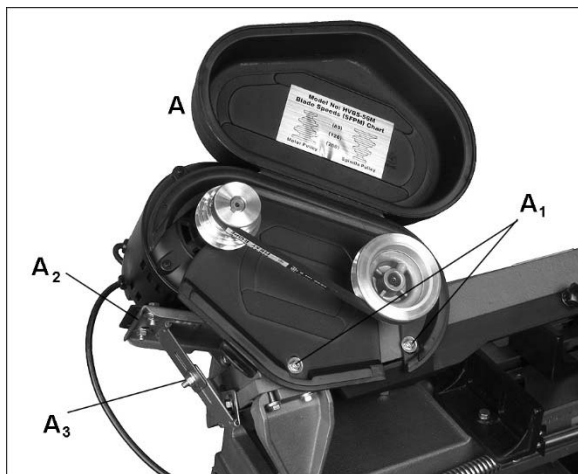

Figure 6
4. Slide pulley cover (A, Figure 6) over pulley spindles and secure with two screws (A1).